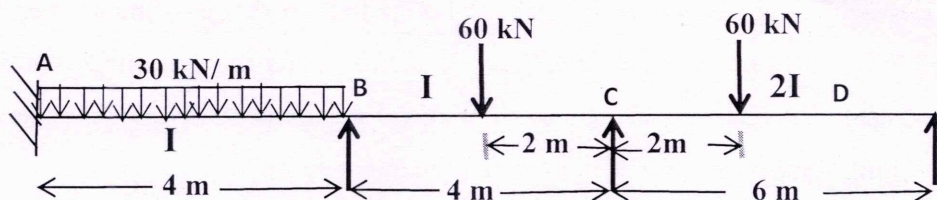

Fig.5
- 15 a) Analyse the continuous beam ABCD consisting of three spans and is loaded as shown in fig.5. Ends A is fixed and D is simply supported. Use slope deflection method and plot the bending moment diagram. 14